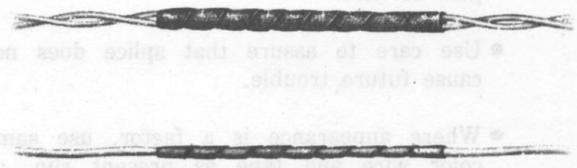

Fig. 4—Taping Splice
- (5) Cover each sleeve with a single, half-lapped layer of friction tape and then wrap entire splice with a single, half-lapped layer of tape extending tape 2-1/2 inches beyond each end of area from which outer covering was removed (Fig. 4).
- (6) Where damp or outdoor locations are encountered, use rubber tape before placing friction tape.